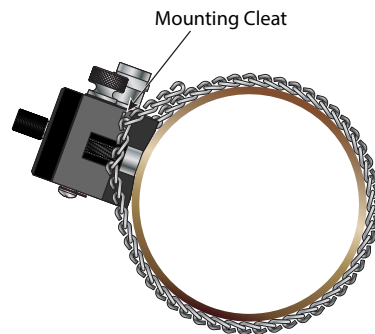

Figure 5: Transducer mounting chain hooked onto mounting cleat
5. Wrap the mounting chains around the pipe and secure the chains to their respective mounting cleats. See Figure 5.